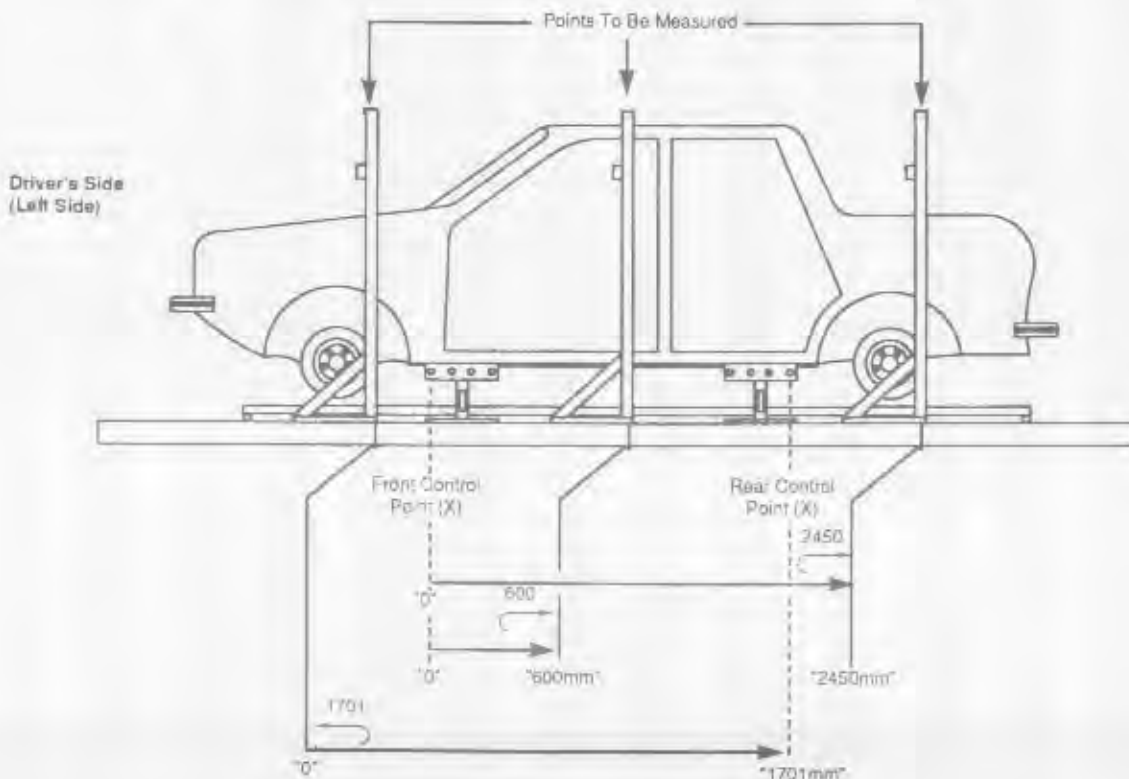

Figure 3
- B. The front secondary ladder setting, see example at right:  corresponds with secondary ladder setting in underhood view on lower body specification sheet for same vehicle. Length measurements for each secondary ladder setting **MUST BE** done on the driver's (left side). The direction of the hook shaped arrow  designates control point (X) to be used for 'zero' reference. If arrow points to front of vehicle , rear control point (X) is to be used as 'zero'. If arrow points to rear of vehicle , front control point (X) is to be used as 'zero'. (See Figure 3.)